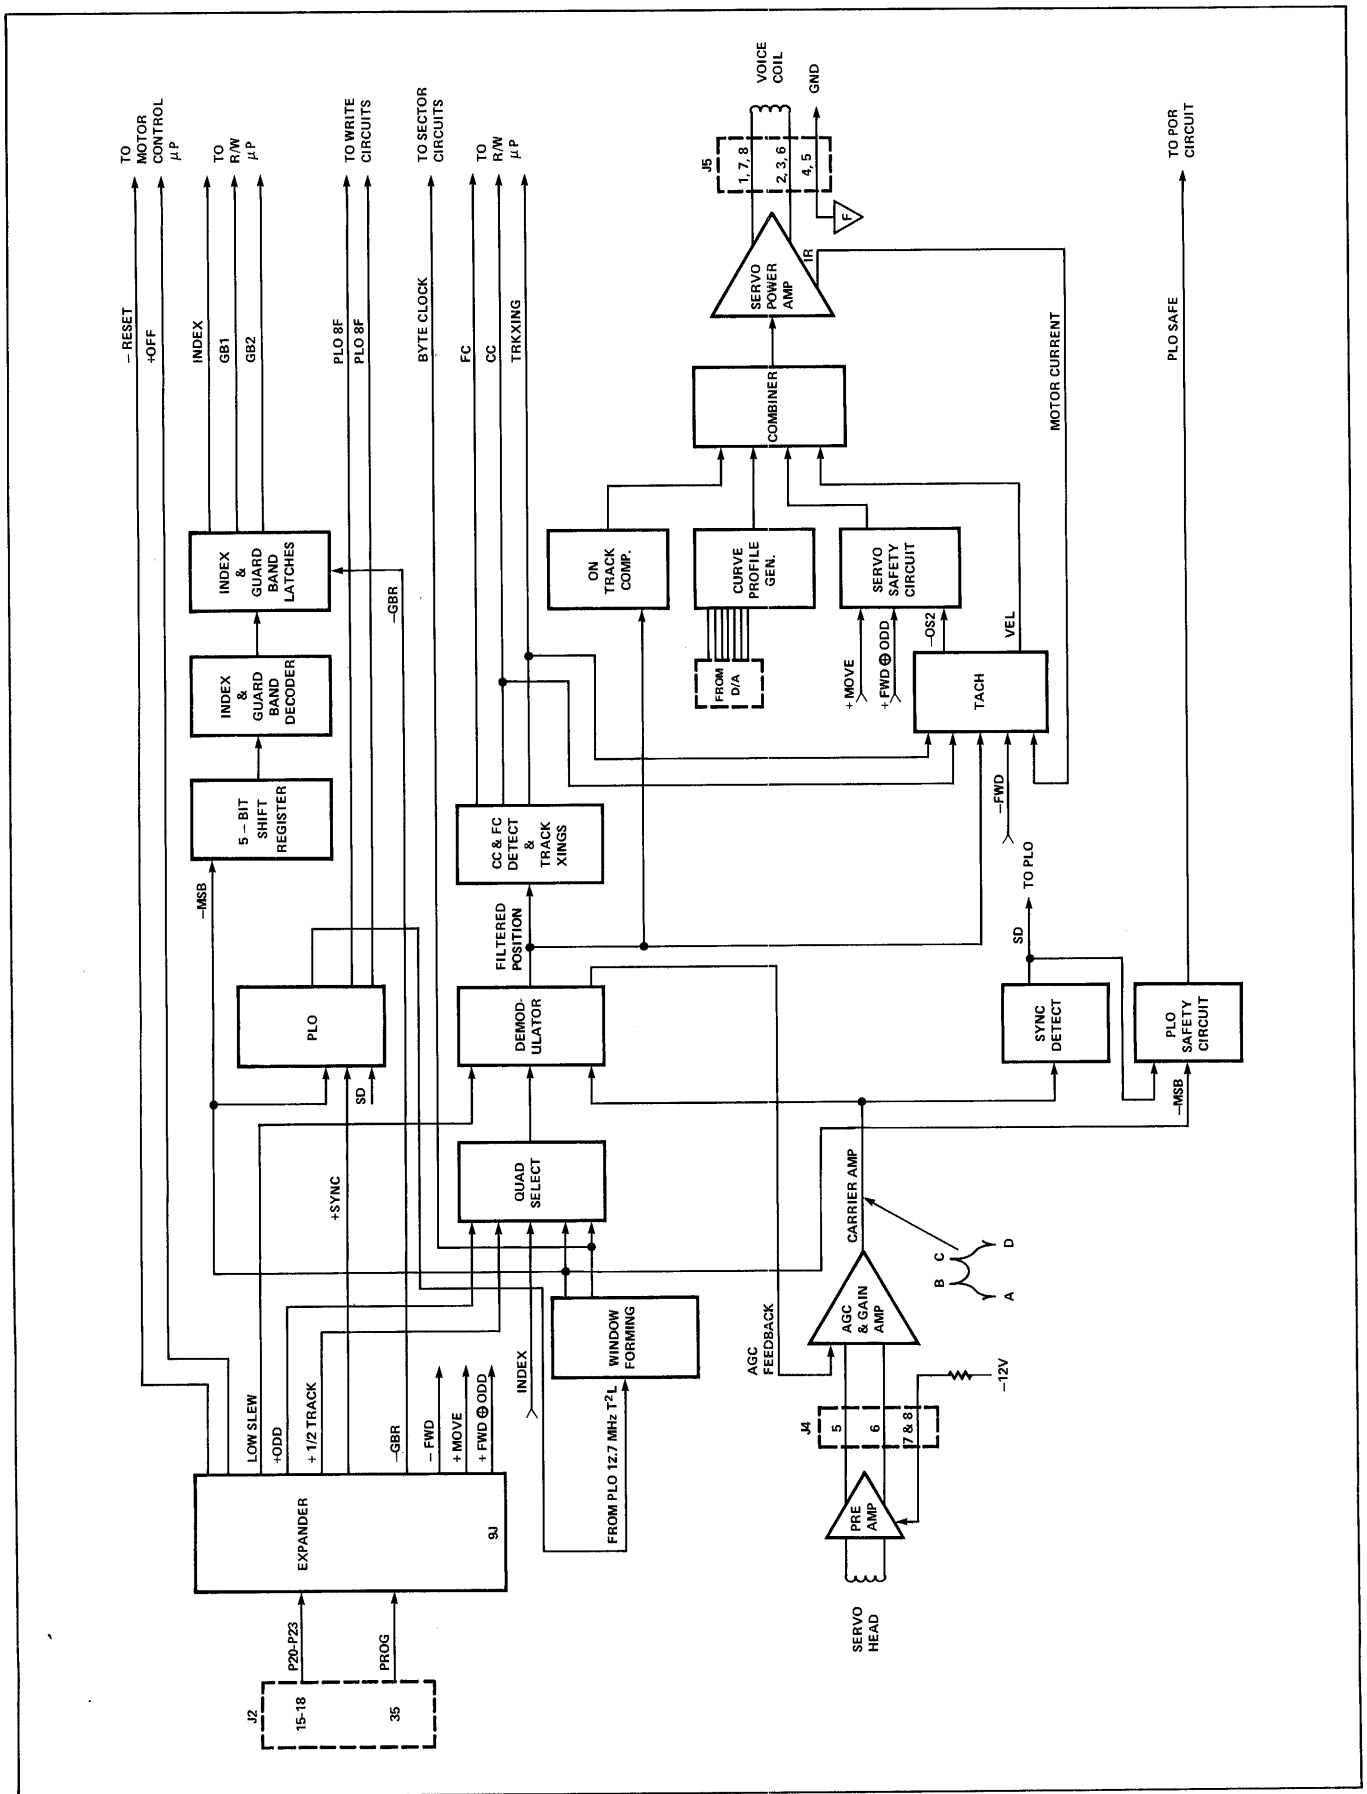

Figure 3-5. Servo Circuitry
When the servo read head is midway between two adjacent tracks (a “track-crossing” position) the output resembles the patterns shown at the bottom of Figure 3-5. Successive frames produce the equal-amplitude positive peaks, alternating with single large peaks. By analyzing which frames have the equal-amplitude peaks, and whether the large peaks occur at the one-third or the two-thirds locations within the frame, the servo circuitry is able to determine which of the four kinds of “track-crossing” positions is being indicated. Note that the servo read head is midway between two adjacent tracks when the data write/read heads are “on-track.”
3.13 Servo Circuitry. Figure 3-5 is a block diagram of the servo circuitry. The signal from the servo head is amplified by a preamp located adjacent to the head in the head disc assembly. On the main PCB it is further amplified by an AGC amplifier. The output of this amplifier has the waveform shown as ABCD in Figure 3-5, when the servo head is located midway between an odd track and an even track, and the servo data pattern is all 0s. A and D are the sync pulses occurring at the bit cell boundaries. When a 1 is present in the servo data stream, an additional "sync" pulse appears at the mid-cell position.